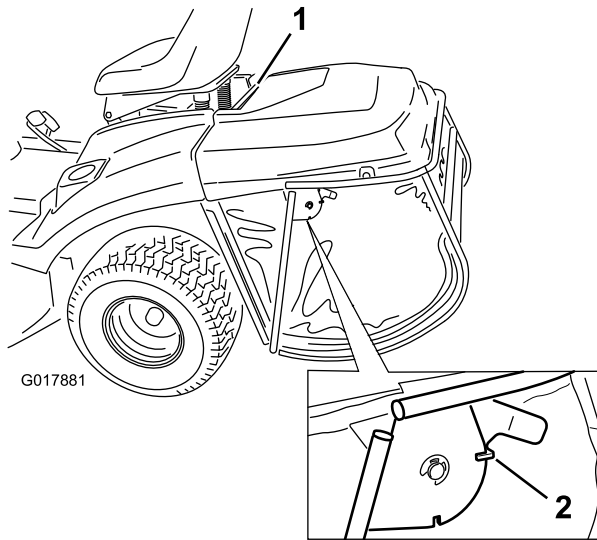

Figure 37
1. Lock the locking latch on the grass collector (Figure 37).